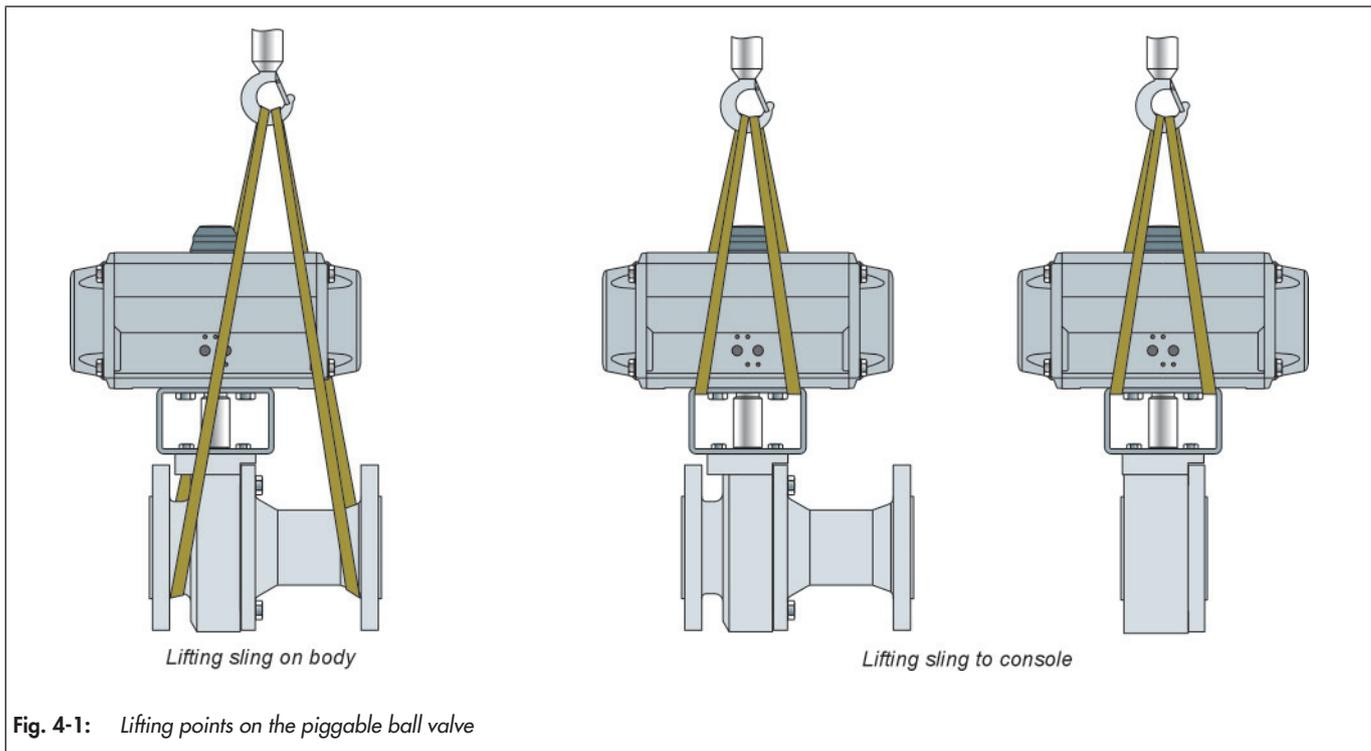

Fig. 4-1: Lifting points on the piggable ball valve
- ⇒ Use a hook with a safety clamp as the suspension element so that the sling cannot slip off the hook during lifting and transport, see Fig. 4-1.
- ⇒ Fasten a lifting sling to each flange of the housing and on the suspension element (e.g. hook) of the crane or forklift, see Fig. 4-1. When doing so, ensure the safety, bearing capacity and length of the lifting slings
- ⇒ Fasten a lifting sling to the bracket and the suspension element (e.g. hook) of the crane or forklift, see Fig. 4-1. When doing so, ensure the safety, bearing capacity and length of the lifting slings.